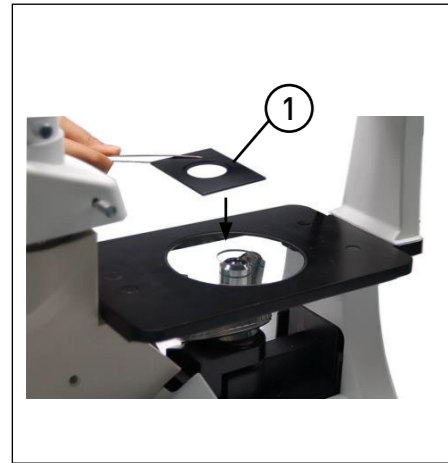

FIGURE 19
4.2.1 Setting the specimen (Fig. 19 & 20)